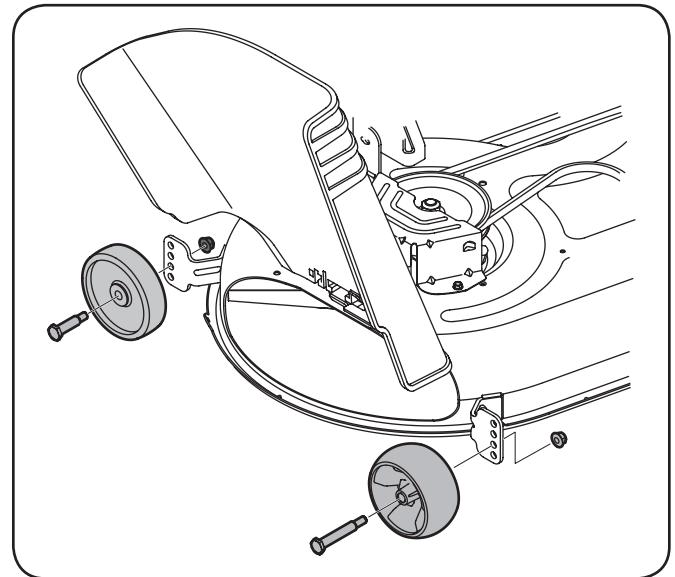

Figure 3-3
- b. Remove the front and rear gauge wheels by removing the lock nuts and shoulder screws which secure them to the deck. See Figure 3-3.